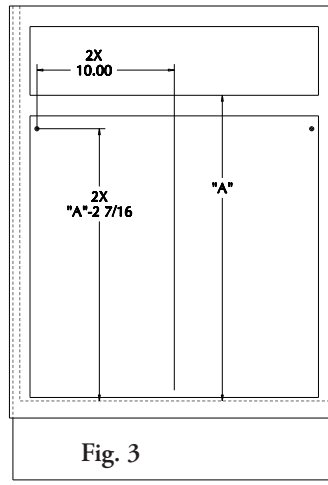

Fig. 3
3. Measure from floor of cabinet to top of rail ("A"). Subtract 2-7/16" from this number and mark back of cabinet 2 places at this height, 10" from the center of the cabinet. (see fig. 3)
4. Screw (2) wood screws (not provided) halfway into back of cabinet at marked places from previous step. (This is to rest back brackets on and will be removed in a later step.)